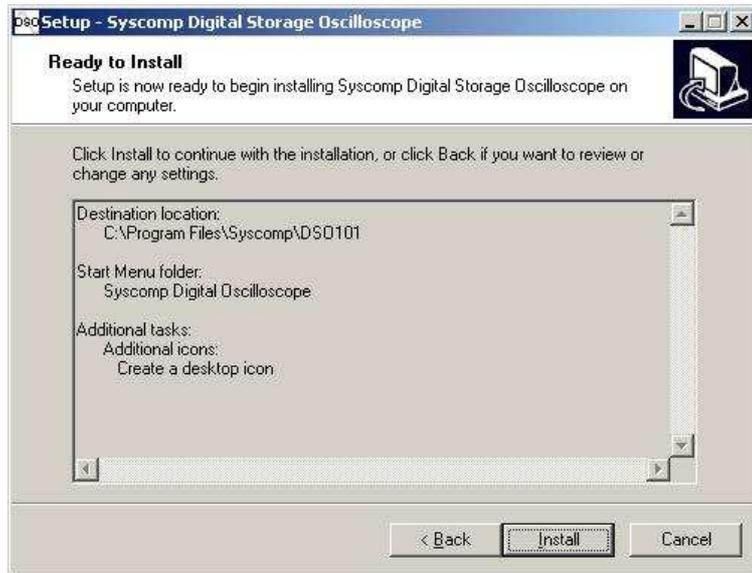

Figure 37: Ready To Install
7. Click on **Next >>**. The screen of figure 37 appears.